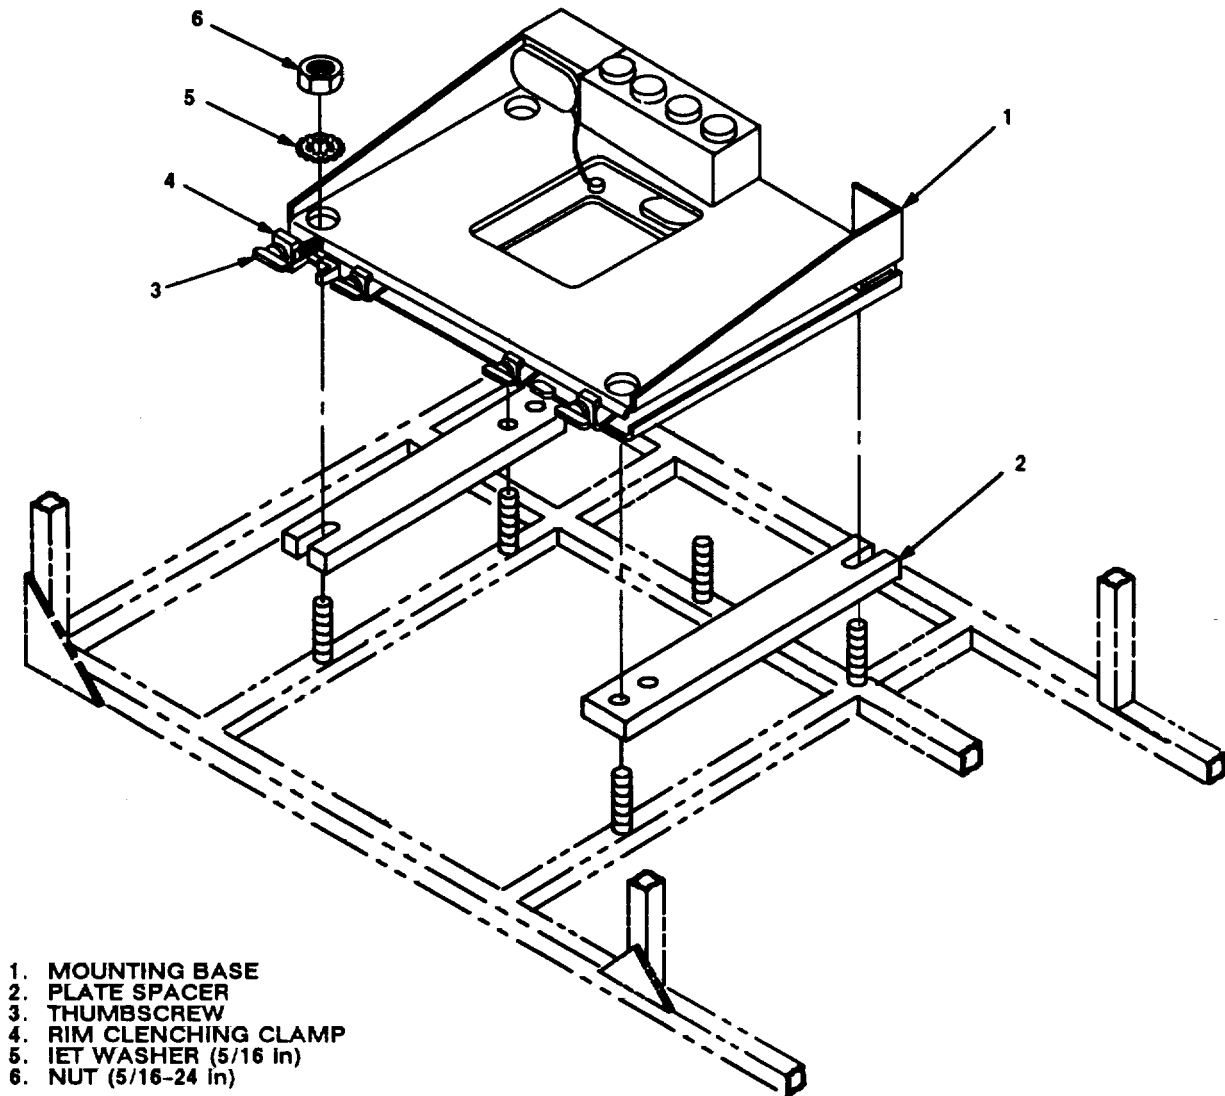

Figure 5-4. Mounting Base Installation: Bottom Equipment Rack Shelf
5.2 Installation of Mounting Base, Electrical Equipment MT-6352/VRC (mounting base). Remove and retain attaching bag of 5/16 in mounting hardware for installation. To insure good electrical grounding, any rust, corrosion or paint around mounting holes in equipment rack shelf should be removed before installing the mounting base. See figure 5-4 and perform the following steps.
a. Two plate spacers (2).	Place on bottom equipment rack shelf over existing studs. See figure 5-4.
b. Two outer thumbscrews (3).	Turn ccw until both sets of threads have cleared center of holes.
c. Mounting base (1).	Place over plate spacers and existing studs.
d. Four nuts (6) and four IET washers (5).	Install and secure to mounting base (1), plate spacer (2) and shelf.	Tools: 1/2 in socket.
e. Two outer thumbscrews (3).	Tighten and secure to rim clenching clamps (4) and mounting base (1).